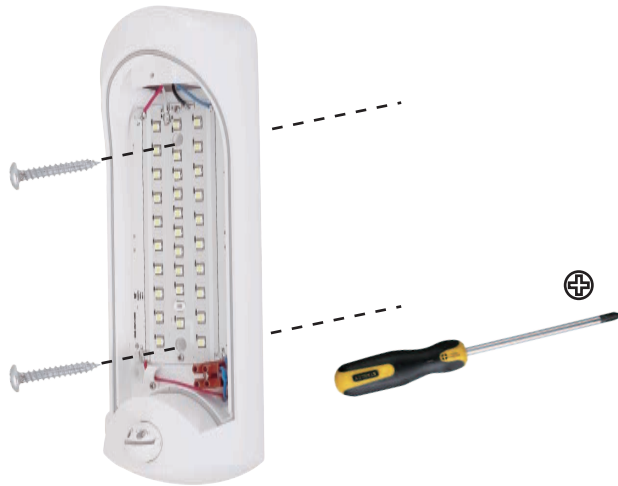
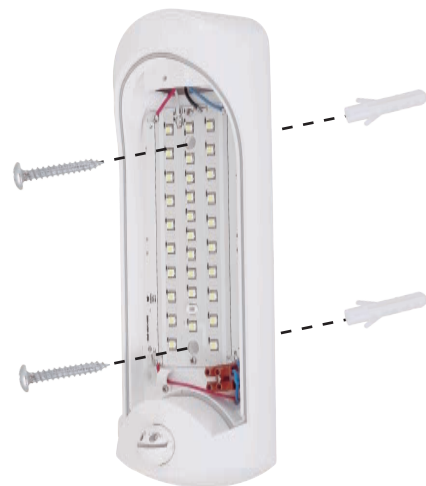

Fig.4a
Fig.4b
- Step 4 If it is a wooden wall,there is no need to use plastic expansion screw,just drive the screw with the screwdriver.(Fig.4a), If it is not a wooden wall ,please refer to step 2.(Fig.4b)